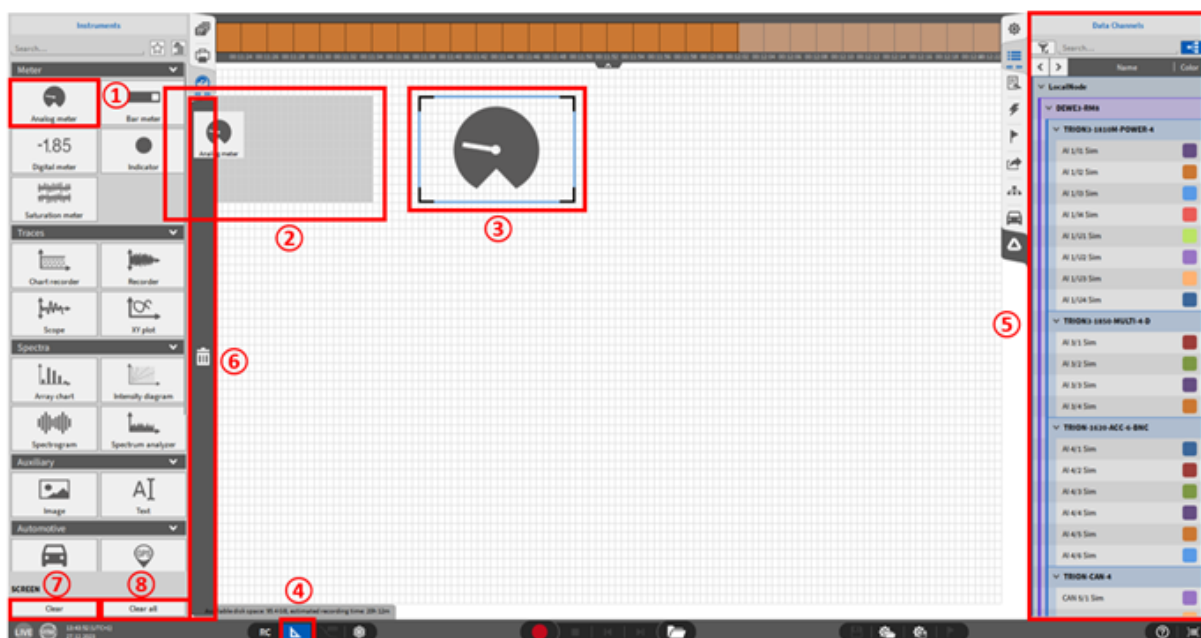

Fig. 8.1: Adding Instruments to the measurement screen
To add an Instrument to the measurement screen, the user must click on the *Instruments* menu and open it while a measurement screen is open. Select the desired Instrument by clicking on it (①), move it to the measurement screen by keeping the mouse button pressed (②) and place it wherever you like by releasing the mouse button (③). In the example of Fig. 8.1, an Analog meter is added to the measurement screen. The Instruments are aligned to the grey grid in the screen background. The *Design* mode is automatically activated when an Instrument is added to the measurement screen. The user can see that the *Design* mode is activated because of the blue background of the *Design* mode button (④) and because of the grey grid in the background of the measurement screen.